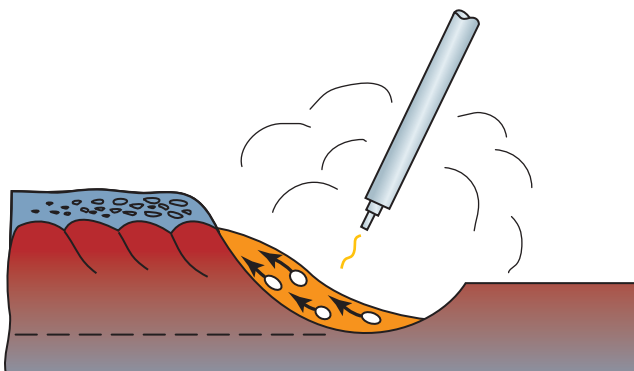

Figure 3.12 Impurities being floated to the surface by slag
- *Slag formers:* Slag serves several vital functions for the weld. It can react with the molten weld metal chemically, and it can affect the weld bead physically. In the molten state it moves through the molten weld pool and acts as a magnet or sponge to chemically combine with impurities in the metal and remove them, Figure 3.12. Slags can be refractory, so that they become solid at a high temperature. As they solidify over the weld, they help it hold its shape and they slow its cooling rate.